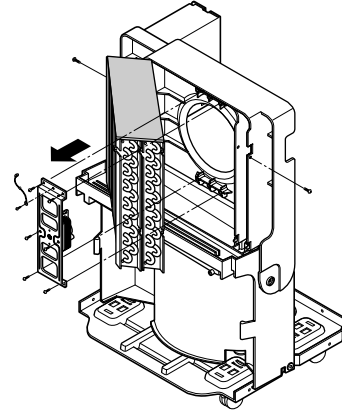

Figure 21
4. Unfasten 3 screws that secure the Motor and earth wire. (See Figure 21)